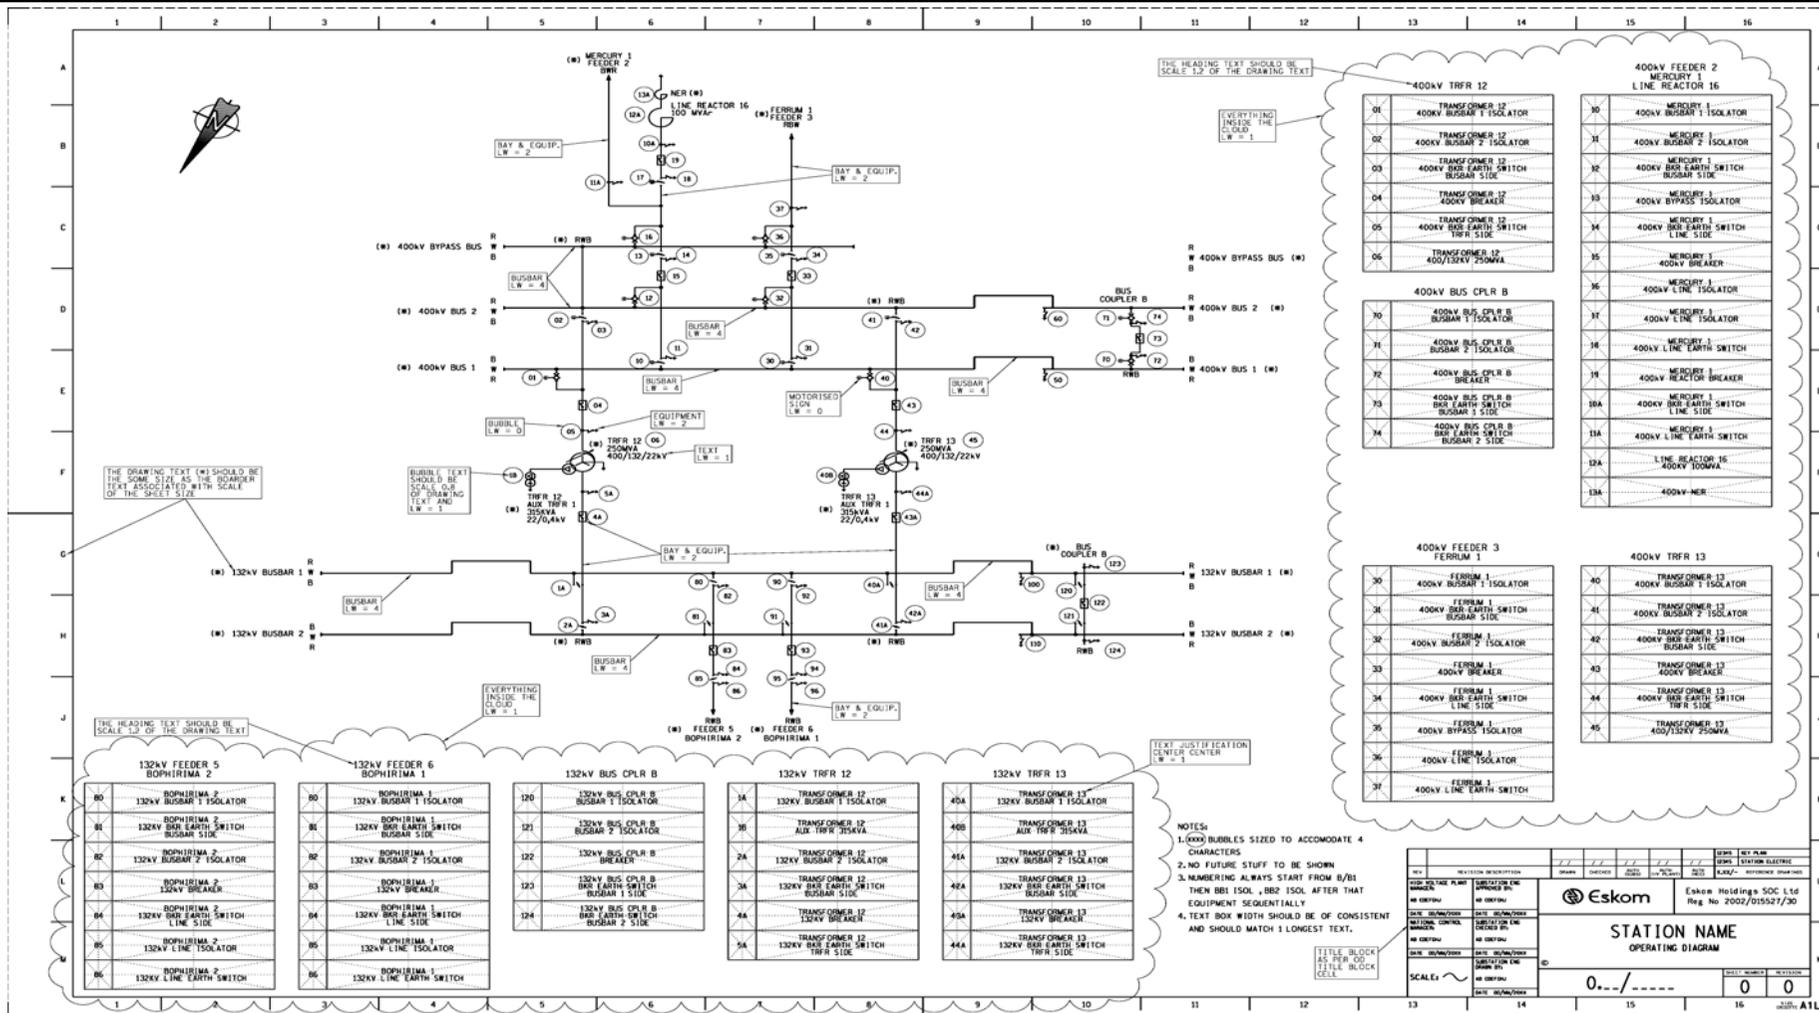

Figure 11: Operating Diagram Guideline
- The required text heights, widths together with the information required to create this drawing are shown in Figure 11 below.